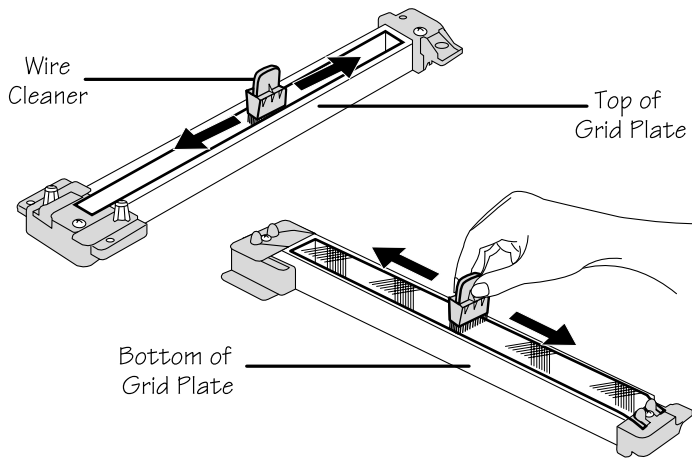

Fig. 6.13 *Clean the Charger Unit*
8. Clean the charger unit by sliding the wire cleaner along the groove in the top of the unit several times; then, flip the unit over and run the wire cleaner several times across the grid plate (a metal screen) on the bottom (fig. 6.13).